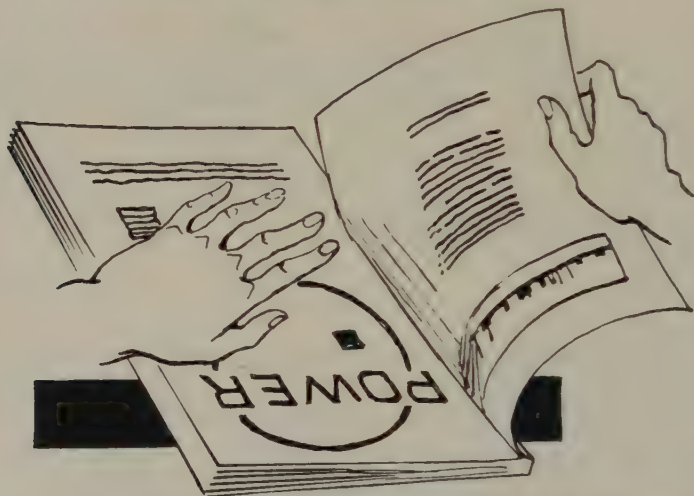

FIG. 145—"PEELING" FRONT COVER OF MAGAZINE FROM BOOK
1. Take the magazine you have provided and carefully remove the cover. To do this lay magazine *flat* on table, *open edge* toward your left hand, lift cover leaf with *right hand*, holding book on table with left hand, and gently "peel" cover off book. (Fig. 145.)